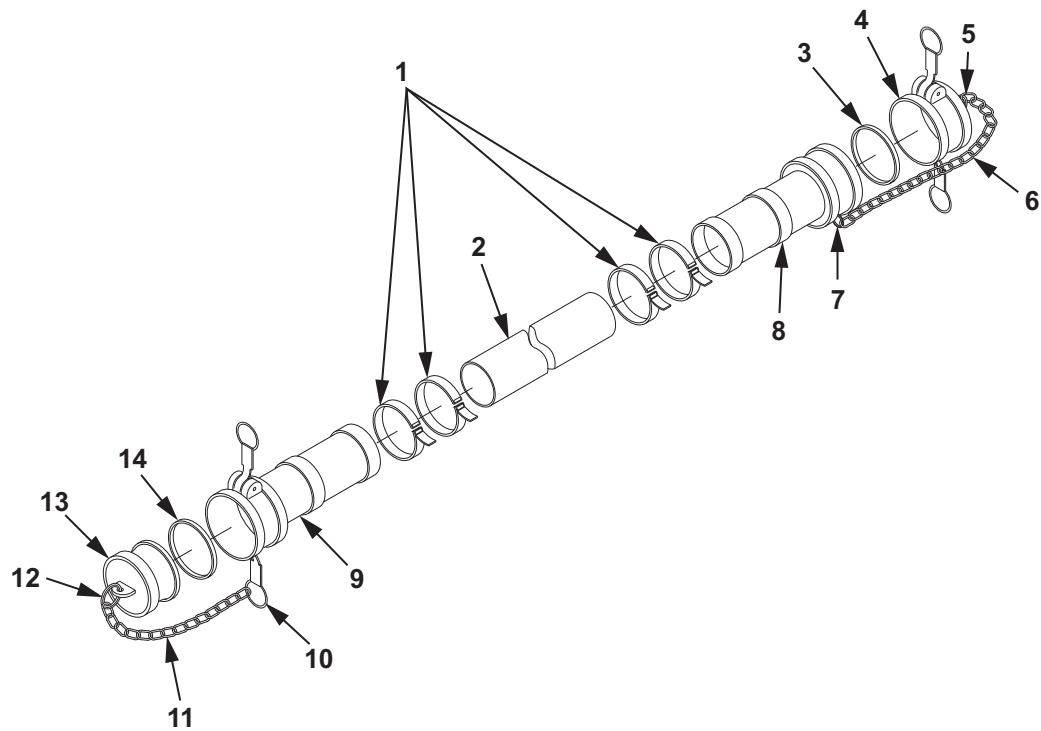

Figure 9. 4 In. X 10 Ft. Discharge Hose Repair.
21. Install new gaskets (Figure 9, Item 14, 3) into quick disconnect dust cap (Figure 9, Item 4) and female coupling half (Figure 9, Item 9).
22. Install quick disconnect dust cap (Figure 9, Item 4) onto male coupling half (Figure 9, Item 8).
23. Install quick disconnect dust plug (Figure 9, Item 13) into female coupling half (Figure 9, Item 9).
24. Install split ring (Figure 9, Item 12) on quick disconnect dust plug (Figure 9, Item 13).
25. Install split ring (Figure 9, Item 12) on chain (Figure 9, Item 11).
26. Install split ring (Figure 9, Item 10) on chain (Figure 9, Item 11).
27. Install split ring (Figure 9, Item 10) on female coupling half (Figure 9, Item 9).
28. Install split ring (Figure 9, Item 7) on chain (Figure 9, Item 6).
29. Install split ring (Figure 9, Item 7) on male coupling half (Figure 9, Item 8).
30. Install split ring (Figure 9, Item 5) on chain (Figure 9, Item 6).
31. Install split ring (Figure 9, Item 5) on quick disconnect dust cap (Figure 9, Item 4).